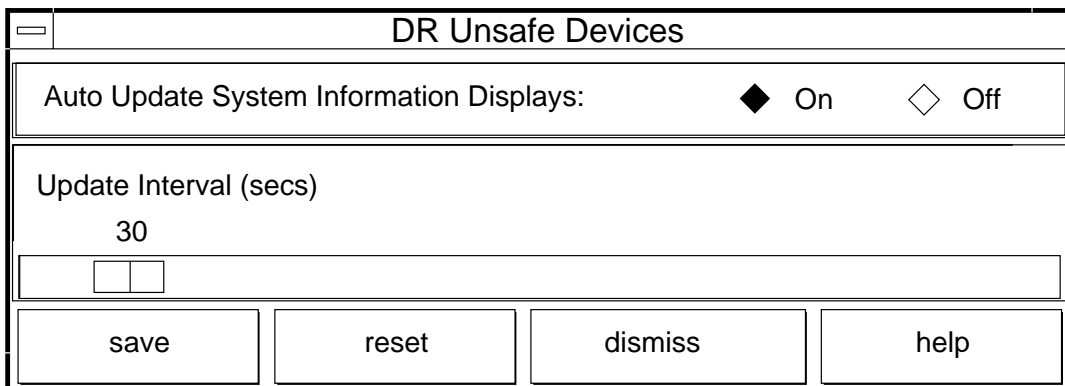

FIGURE 3-7 DR Properties Window
1. **Click the Properties button in the Dynamic Reconfiguration window** (FIGURE 3-7).